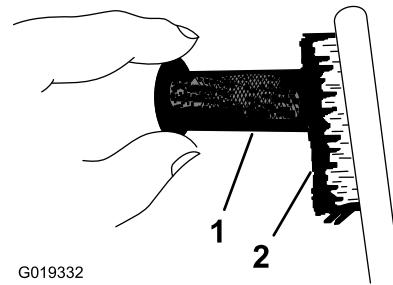

**Figure 51**
2. Remove the 2 nuts (8 mm) and remove the muffler from the cylinder (Figure 51).
3. Remove the 3 screws (4 mm) from the exhaust deflector and remove the deflector (Figure 51).
4. Remove the screws (5 mm and 6 mm) from the muffler protector, and remove the muffler protector (Figure 51).
5. Remove the screw (4 mm) from the spark arrester and remove the spark arrester from the muffler (Figure 51).